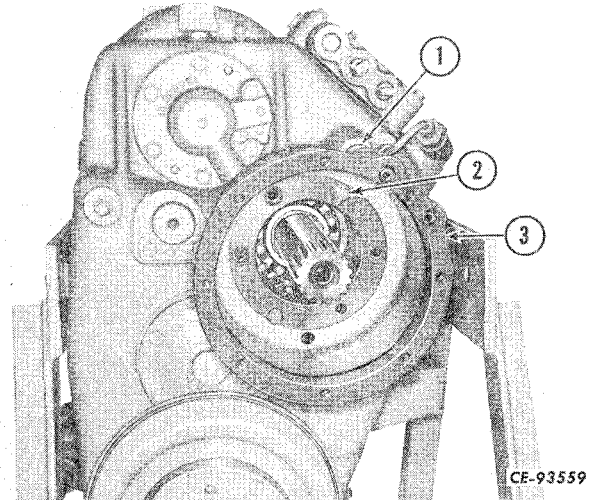

Figure 4-92
Apply plastic gasket to the mounting surfaces on the 1st speed clutch housing (3, Fig. 4-92) and the transmission housing. Install new "O" rings (1). Place the 1st speed housing on the